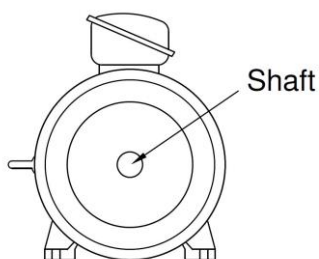

Figure 22.
- Terminal box location is illustrated in Figure 22.